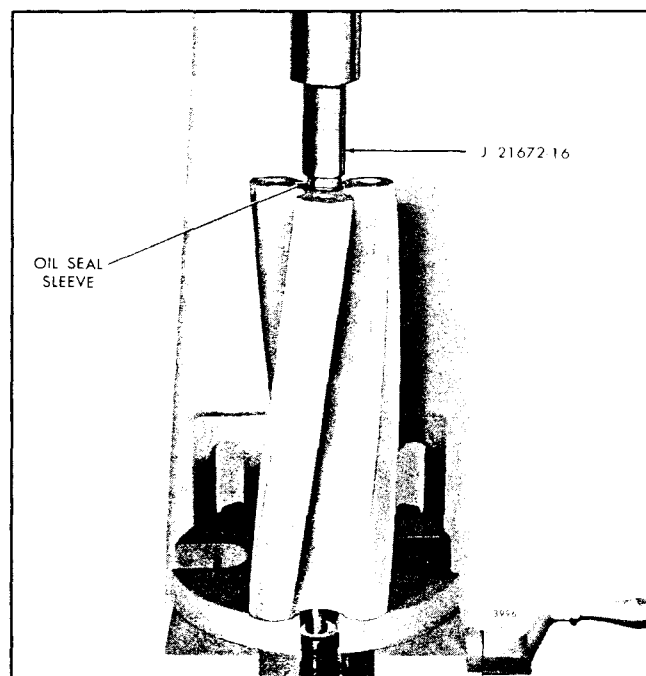

Fig. 12 - Installing Oil Seal Sleeve on Rotor
- a. Support the blower rotor, gear end up, on the bed of an arbor press as shown in Fig. 12.